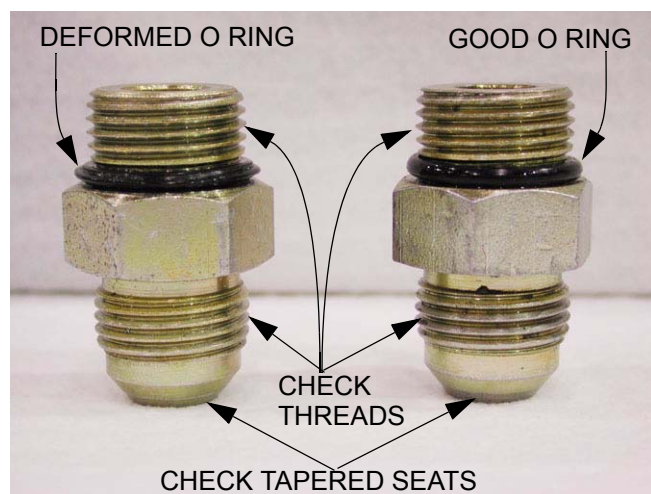

Figure 5.27
- 5.27. Inspect all of the fittings and O rings prior to installation in the replacement pump. See Figure 5.27.